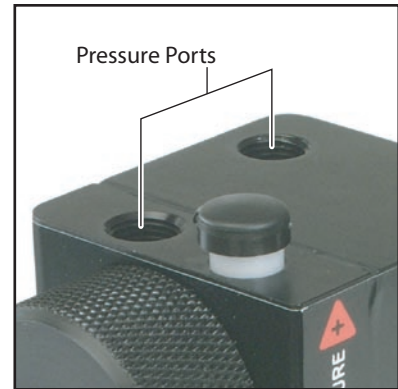

Figure 1
- 1 Your ComboPump has two $\frac{1}{8}$ " NPT male pipe thread pressure ports (figure 1). Always use PTFE (polytetrafluoroethylene) tape on the threads of any pressure fittings installed into the ComboPump. **DO NOT USE** liquid pipe sealing compounds (such as "pipe dope"). Be careful not to over-tighten fittings.